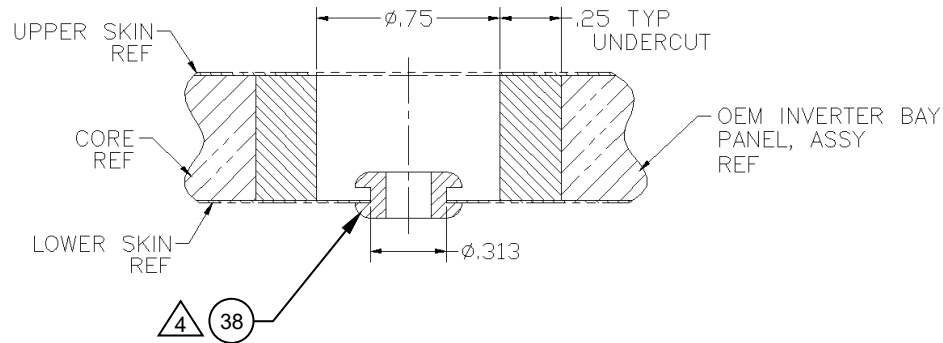

Figure 8
16. Lead the supplied wiring harness (Item 40) through the appropriate wire holes and associated Grommets (Item 38) in the inverter bay panel keeping the male connector on the inside of the panel. Reference Figure 8 & 11.